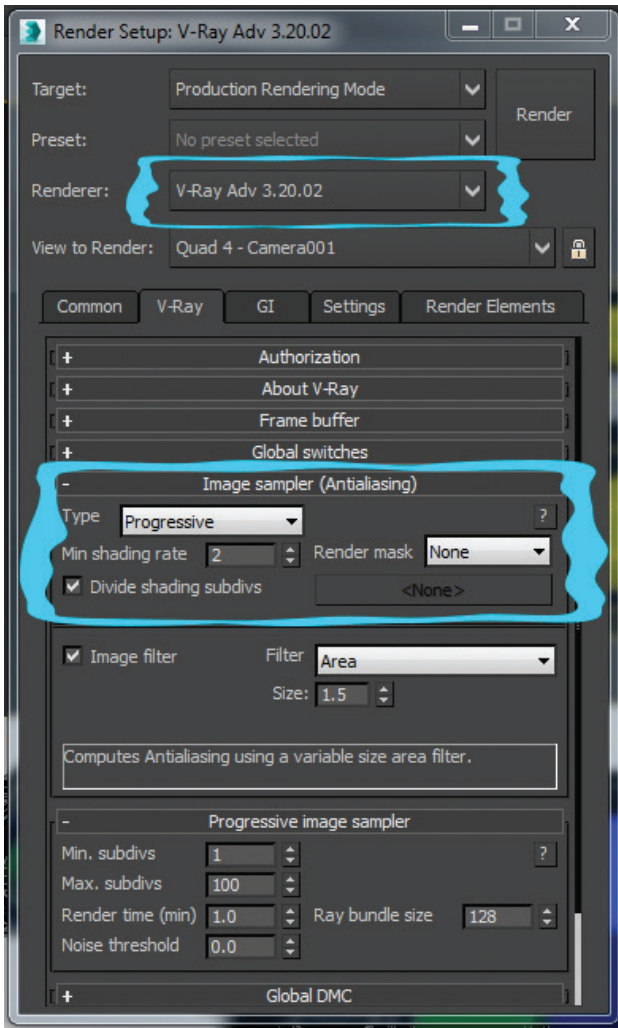

Figure 3: Step One
**Step One.** With Vray Adv set as renderer, select the V-Ray tab. For the Image Sampler choose "progressive." See Figure 3 for example.